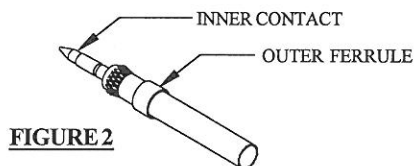

FIGURE 2
2. Slide outer ferrule over cable as shown in Figure 2.